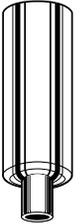

Figure 2.
2. Moisten O-ring inside large end of calibration adapter (Cat. No. 225-01-03, see Figure 2) and push adapter over cyclone stem until it fits snugly.